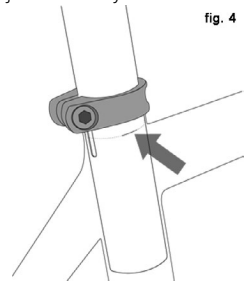

fig. 4
- re-tighten the seat post clamp to the recommended torque (see Appendix D or the manufacturer’s instructions). Once the saddle is at the correct height, make sure that the seat post does not project from the frame beyond its “Minimum Insertion” or “Maximum Extension” mark (fig. 4).